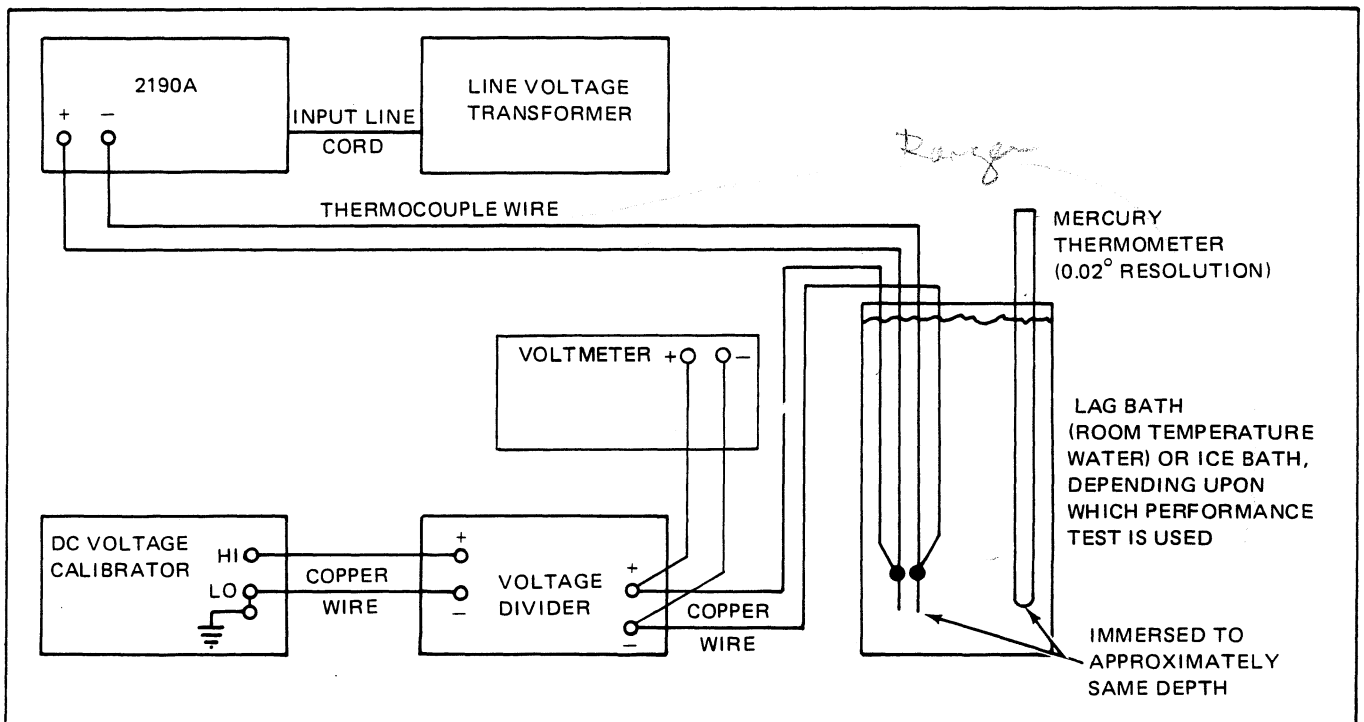

Figure 4-2. Equipment Connections
3. Connect the equipment as shown in Figure 4-2.
4. Replace the thermos cap or cork and insert thermocouple wires and thermometer as shown in Figure 4-2.